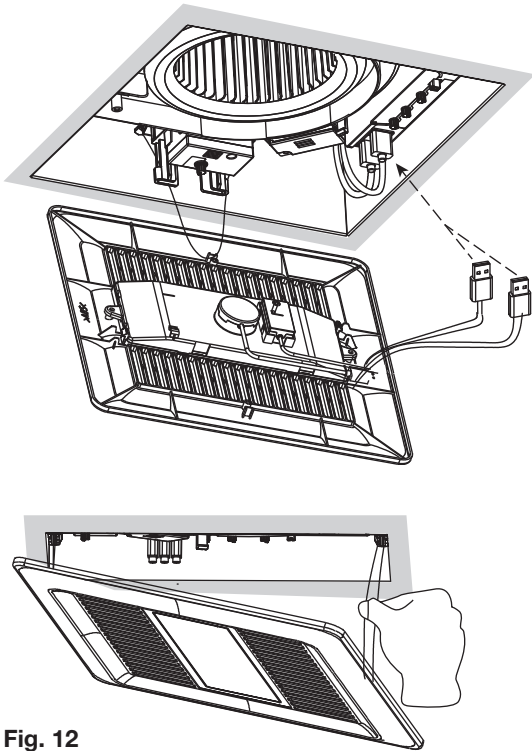

Fig. 12
- b. Insert the USB connector into the USB receptacle (see page 4 for appropriate USB port configuration) and insert other mounting spring into the slot as shown and mount grille to fan body. Avoid pinching module wires. (Fig. 12)